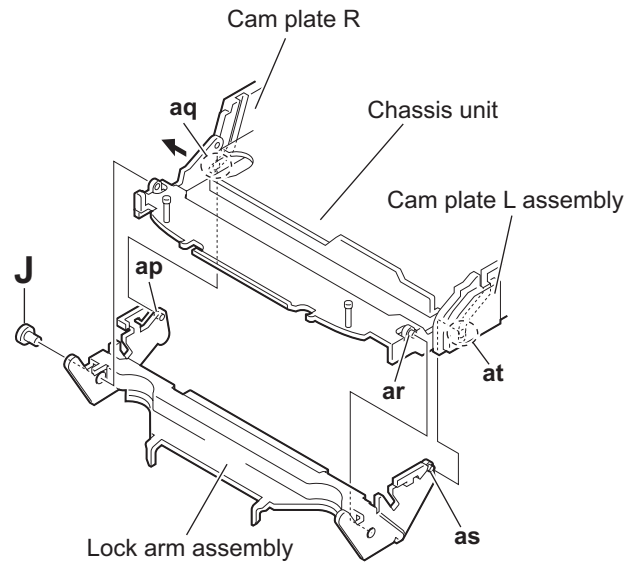

Fig.19
3.1.13 Removing the loading roller assembly (See Figs.19 to 21)
- (1) From the left side of the chassis unit, remove the screw **J** attaching the lock arm assembly. (See Fig.19.)
- (2) Remove the projection **ap** of the lock arm assembly from the joint **aq** while opening the cam plate R in the direction of the arrow. (See Fig.19.)
- (3) Remove the lock arm assembly from the projection **ar** of the chassis unit. (See Fig.19.)
- (4) Remove the projection **as** of the lock arm assembly from the joint **at** of the cam plate L assembly. (See Fig.19.)